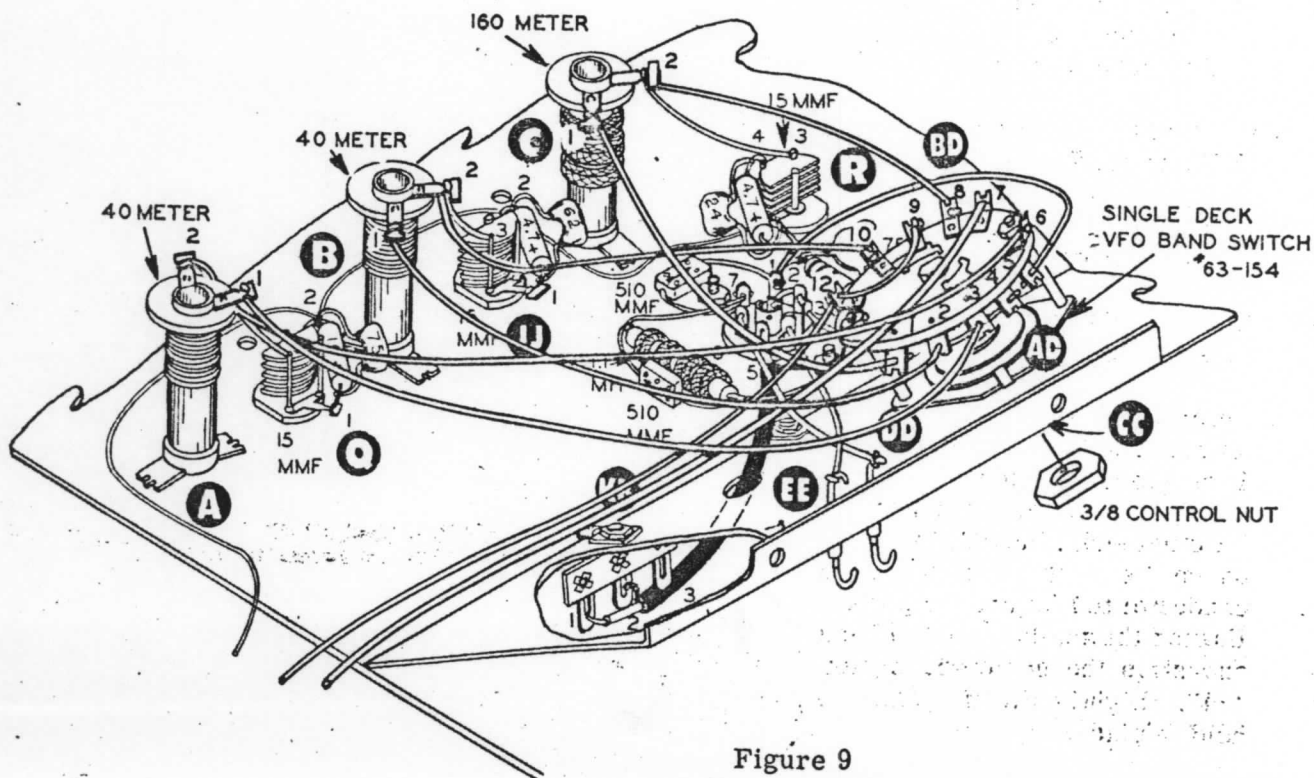

Figure 9
- () Connect a #20 bare wire between lug 3 of the 15 mmf variable capacitor at R (S-1) and lug 2 of the 160-meter coil at C (NS). CAUTION: Exercise care in soldering to the capacitor so that no excess solder will interfere with the movement of the rotor plates.
- () Connect a #20 bare wire between lug 3 of the 15 mmf variable capacitor at JJ (S-1) and lug 2 of the coil at B (NS).
- () Connect a #20 bare wire between lug 3 of the 15 mmf variable capacitor at Q (S-1) and lug 2 of the coil at A (NS).
- () Refer to Figure 9 and locate the single deck VFO band switch (#63-154). Placing a 3/8" lockwasher on the shaft, insert it through hole CC and secure with a 3/8" control nut. Be sure the locating lug is locked in the locating groove.
- (✓) Referring to Figures 9 and 12, connect the free end of the #20 bare wire from BD-12 to lug 3 on the VFO tuning capacitor (S-1). Trim off any excess lead length.